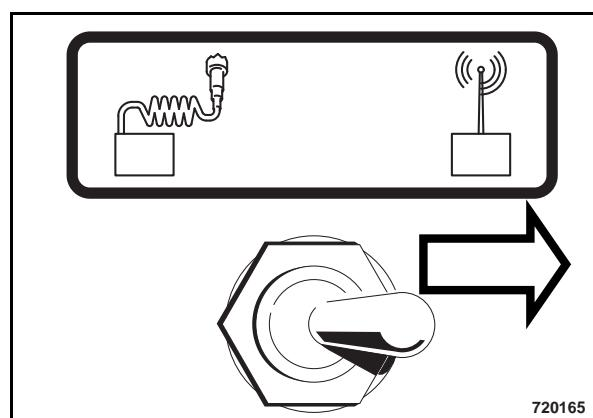

Fig. 30
- For radio operation of the machine switch the toggle switch (Fig. 30) to the right.